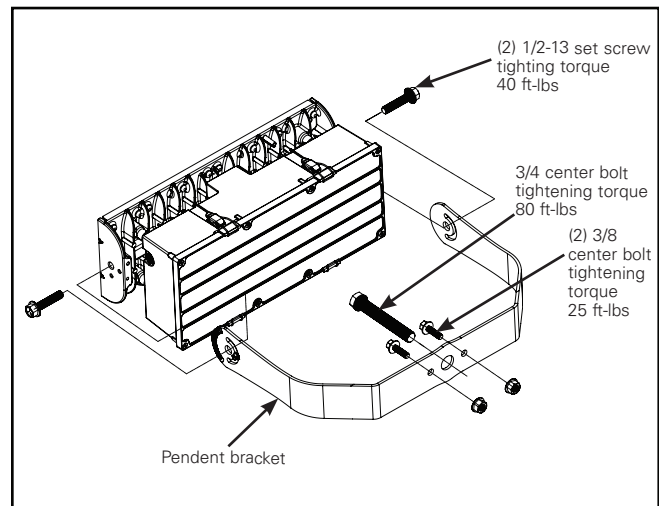
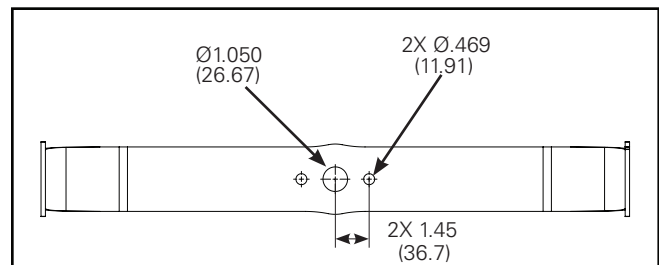

Figure 7.
Figure 8.
Pendant Mounting (Figure 7, 8, 9)
- Mount luminaire to a surface ensuring maximum contact across the bottom surface of the pendant. Use hole pattern provided in Figure 8 to properly align the pendant with center hole and 2x .45 holes with spacing of 2.90 inches (Fig 7).
- Rotate Luminaire to desired aiming position and tighten center bolts to 40 ft-lbs (Fig 7).
- Loosen but do not remove the (2) 1/2-13 center bolts of luminaire (Fig 7).